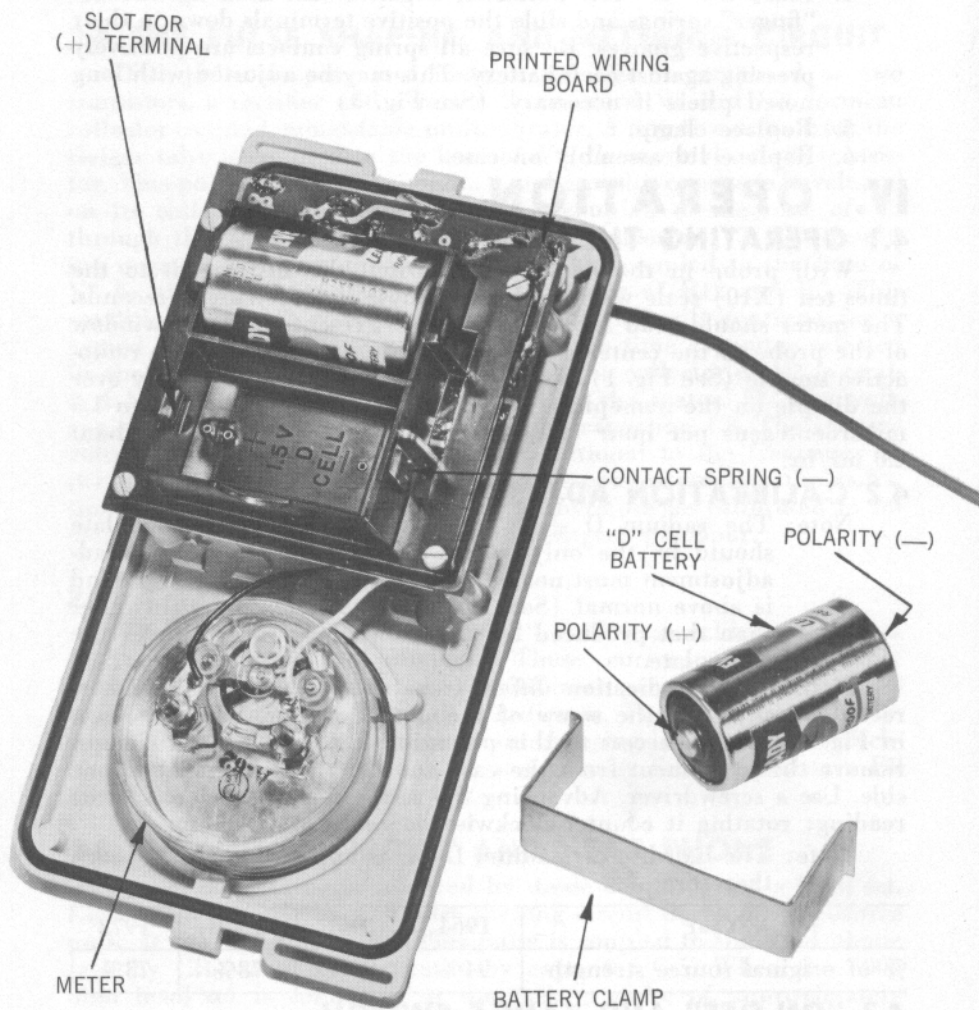

Fig. 3 — V-700 Showing Battery Section
4. Place the "D" cell batteries, negative end first, against the "finger" springs and slide the positive terminals down in their respective grooves. Be sure all spring contacts are positively pressing against each battery. This may be adjusted with long nosed pliers if necessary. (See Fig. 3)